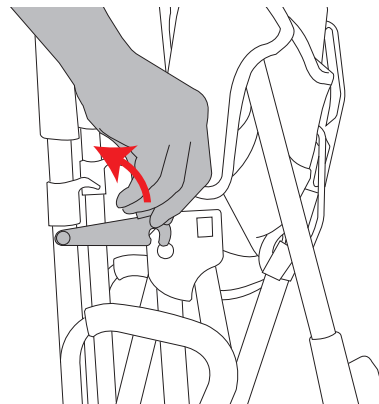

Figure 2
- Release the locking latch located on the right side by lifting the lever off of the extended rivet. See Figure 2.